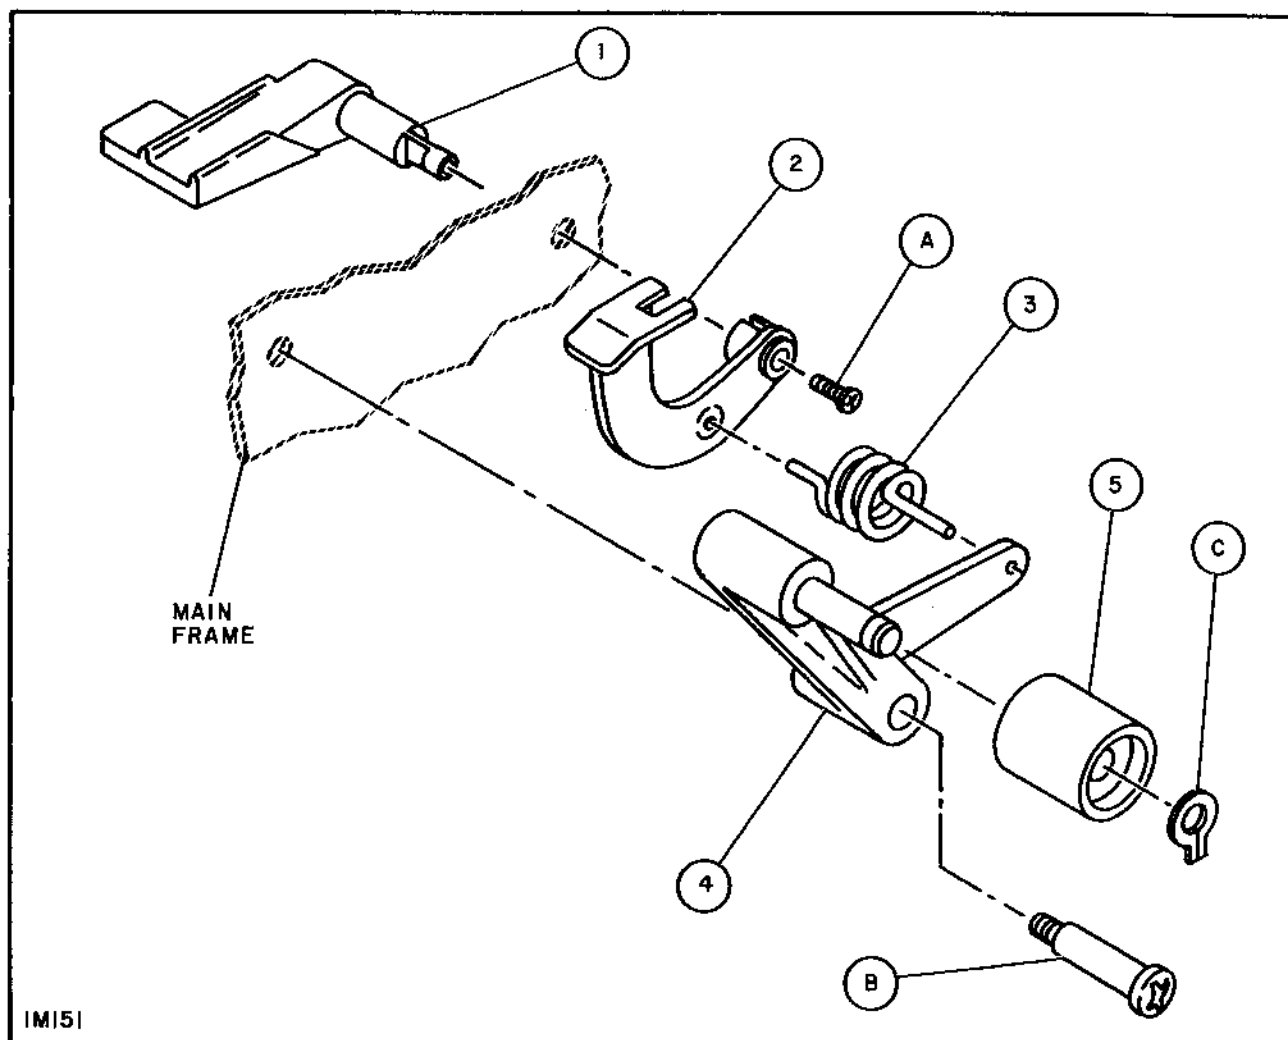

Figure 21
3. Remove screw (B), rewind arm (4), and spring (3).
4. Remove screw (A), slide knob (1), and lever (2) out of casting. (Figure 21).
5. To remove roller (5) remove retaining ring (C).